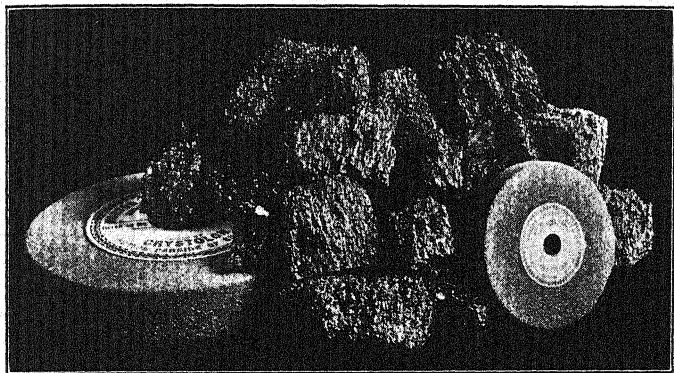

FIG. 231. — Crystolon abrasives.
*Crystolon* is an abrasive that is made in much the same manner as "Carborundum." It is made into hones, grinding wheels, and polishing cloths. (See Fig. 231.)